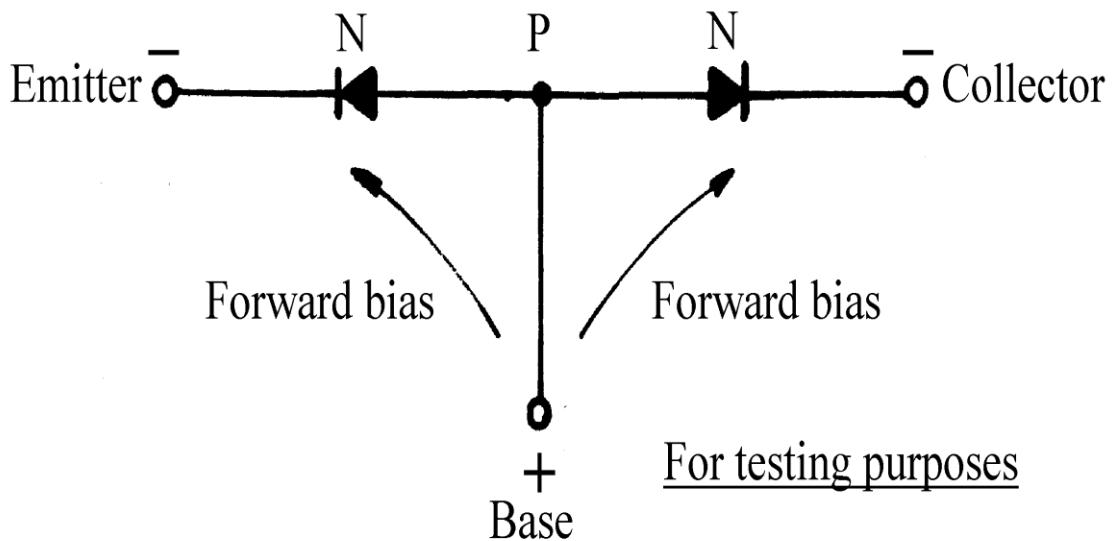

Figure 2
- Study Fig. 2. An NPN transistor can only be drawn for testing and biasing purposes as follows: